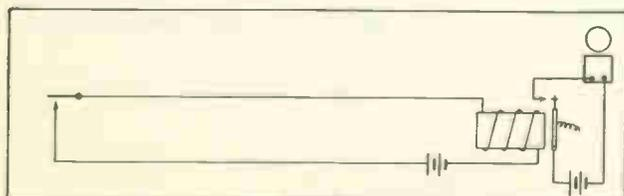

Fig. 4.
- a. Using the open contacts only, for remote control, Fig. 4.